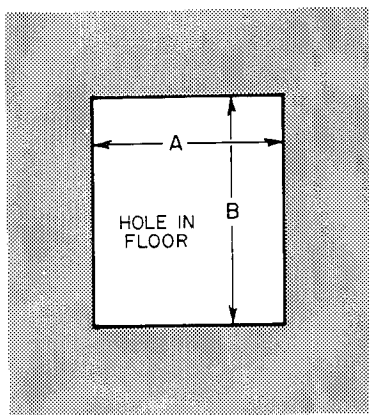

Figure 4—Floor Opening for Concrete Slab
2. Construct hole in floor per dimensions in Figure 4 and Table IV.